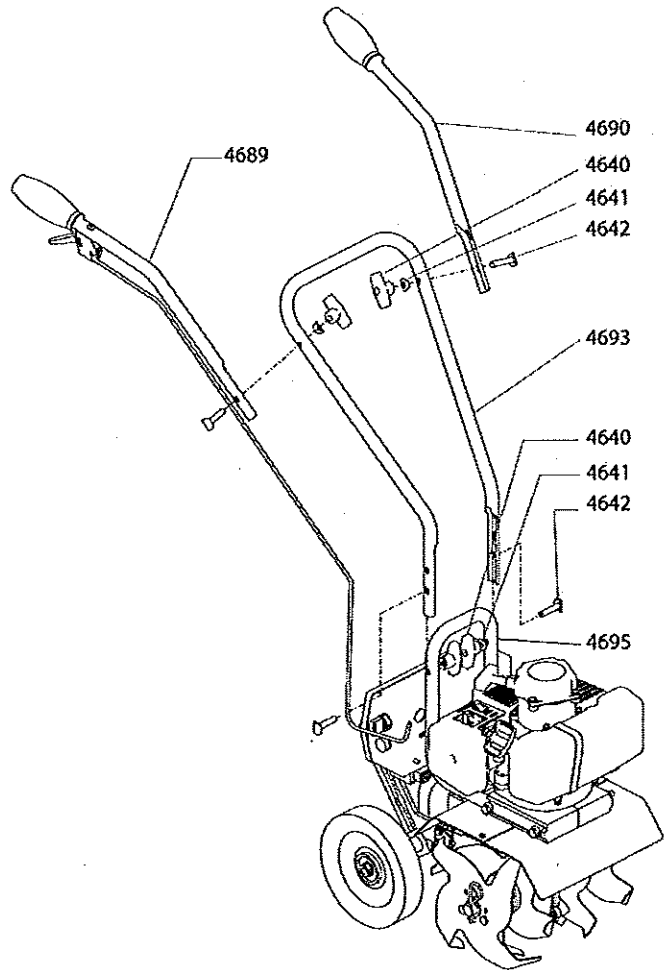

Figure 1
2. Using two tee handle nuts (4640), two bolts (4642), and two curved washers (4641), assemble the middle handlebar (4693) to the lower handlebar (4695) that is already attached to the mini-cultivator assembly. **SEE FIGURE 1.** The middle handlebar can be installed in two positions one high and one low. **DO NOT** overtighten the tee handle nuts.
3. Attach the upper right and left handlebars (4689 & 4690) to the middle handlebar using the two remaining tee handle nuts, bolts, and curved washers. **SEE FIGURE 1. DO NOT** overtighten the tee handle nuts.